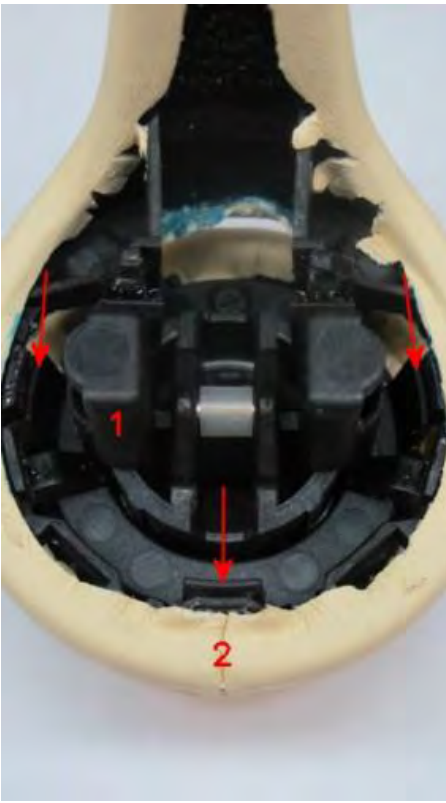

Figure 3
5. Immediately insert the buttonholder (1) into the intermediate section (2) pushing the two parts together, correct engagement indicated by audible click (see Figure3)